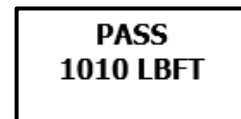

Figure 4.5-2: Pass
3. If the actual torque is within the target torque tolerance, the "PASS" message will appear on the screen along with the actual torque (Figure 4.5-2).